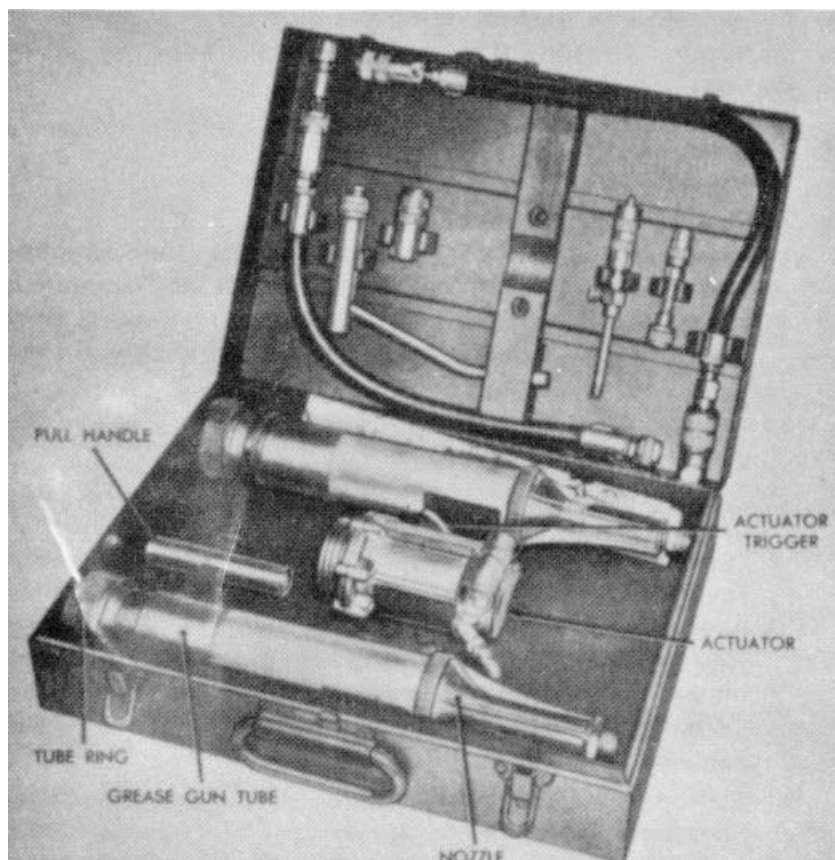

Figure 70. Grease gun kit.
The grease gun kit (fig. 70) consists of a high pressure gun, a low pressure gun, and all of the adapters and attachments necessary for proper lubrication of various types of equipment. All of the adapters and the guns are packed in a convenient carrying case, which is stored in the front tool box.
(fig. 70)
- (1) Flush the grease gun and adapters which have been used with cleaning solvent to remove all grease from the equipment. Then blow these parts dry with compressed air.
- (2) Place the grease guns and accessories in their appropriate places within the grease gun kit box as shown in figure 70. Close and lock the grease kit box and place the box in its appropriate position in the compressor front tool box.